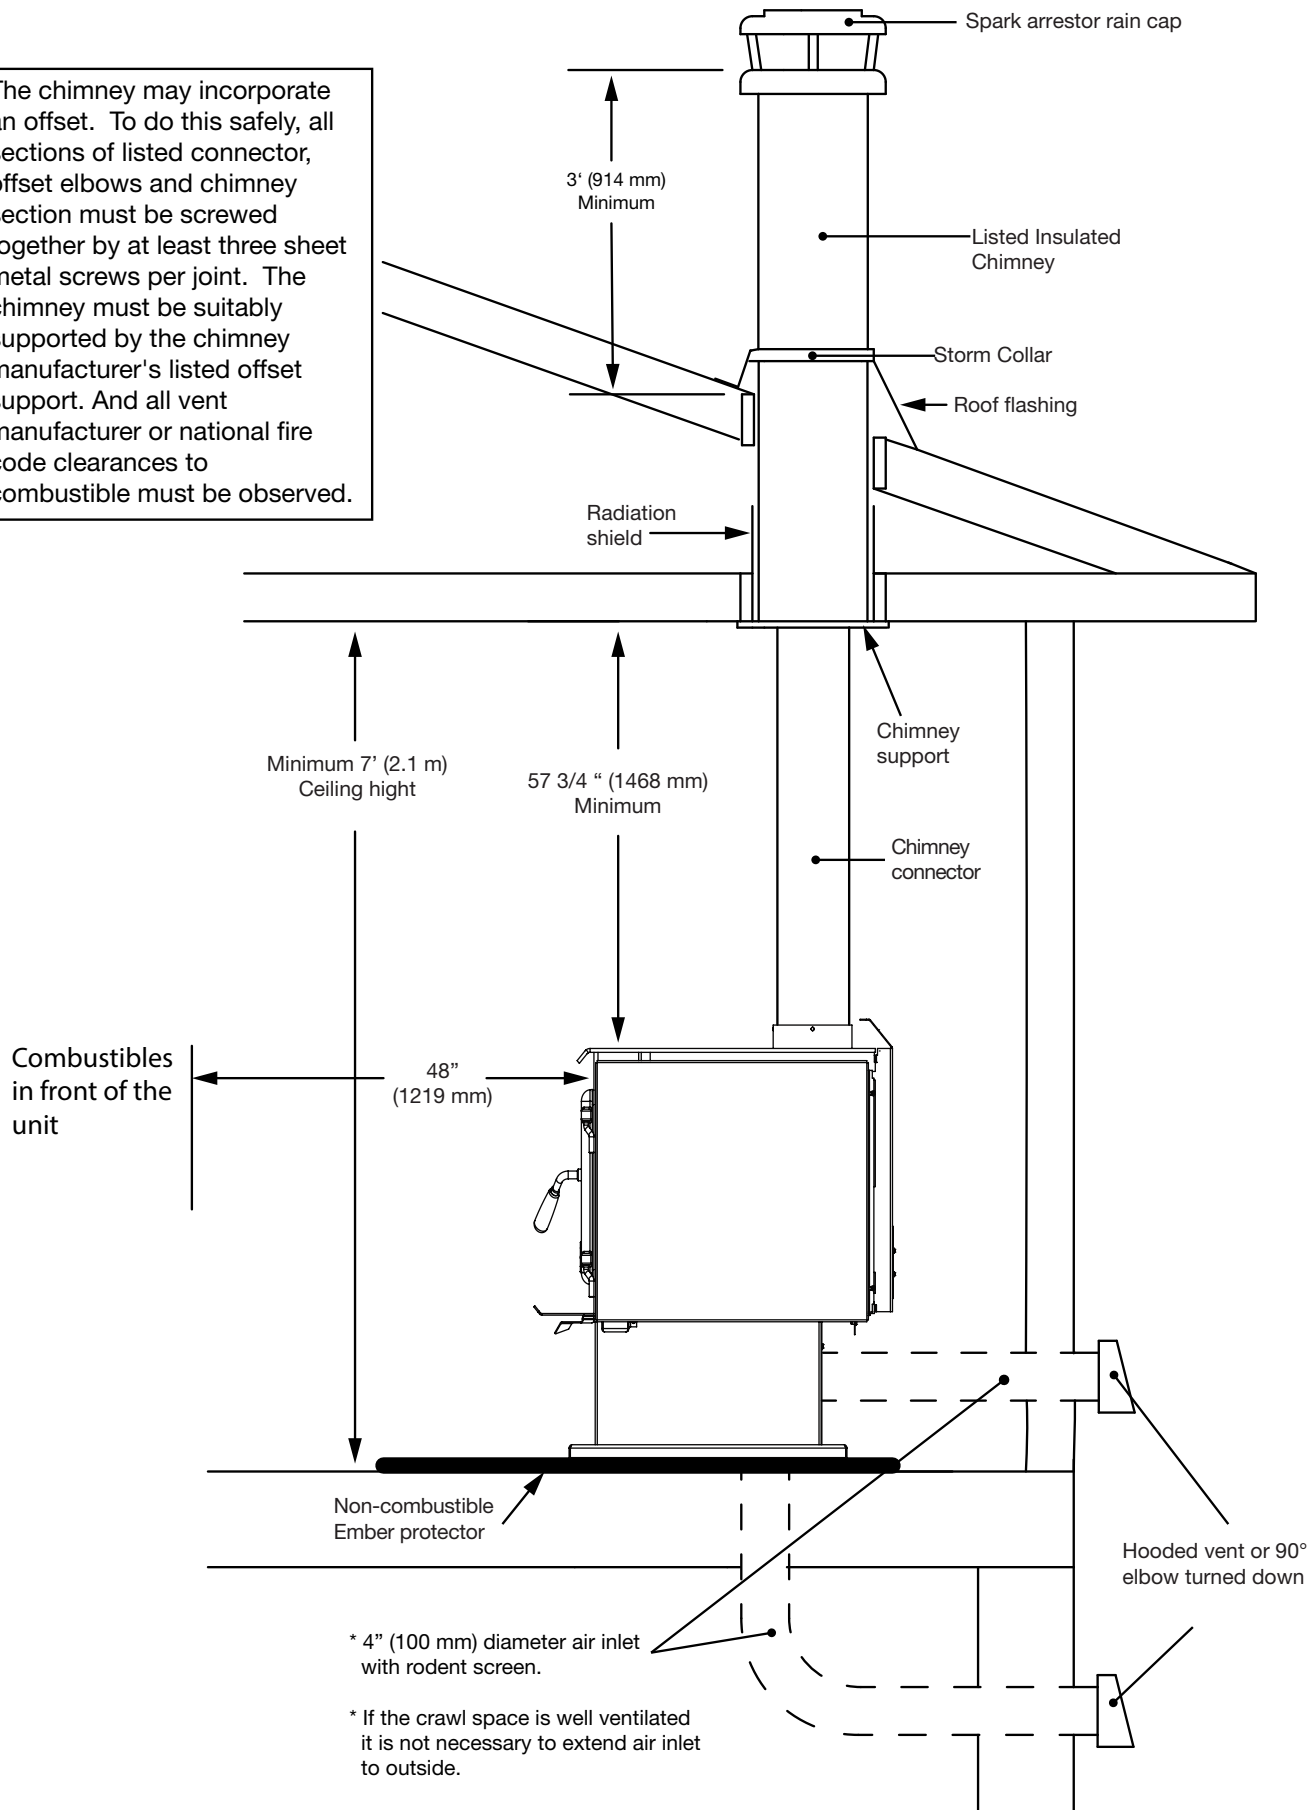

Figure 6: Mobile home or typical home installation.
- To draw outside air through the floor; leave the knockout or square cover plate in the rear of the pedestal in place. Use an approved 4"(100mm) inlet vent cap. Cut or drill a 4"(102mm) diameter or larger hole in the floor anywhere inside the perimeter of the pedestal base. Cover the hole with a 20GA wire mesh minimum, rodent screen and staple/nail in place. This hole must get its air from a ventilated crawl space or be extended with duct to the outdoors (see Figure 6 on page 15 or Figure 7 on page 16)
- To draw outside air through the floor; Cut or drill a 4"(102mm) diameter or larger hole in the floor under the stove. Attach the outside air adapter (OAIR.1B) to the underside of the stove. Connect the adapter to the hole using 4"(102mm) flexible or rigid metal venting. Cover the hole with a 20GA wire mesh minimum, rodent screen and staple/nail in place. This hole must get its air from a ventilated crawl space or be extended with duct to the outdoors (see Figure 6 on page 15 or Figure 7 on page 16. if extended use an approved 4"(102mm) inlet vent cap